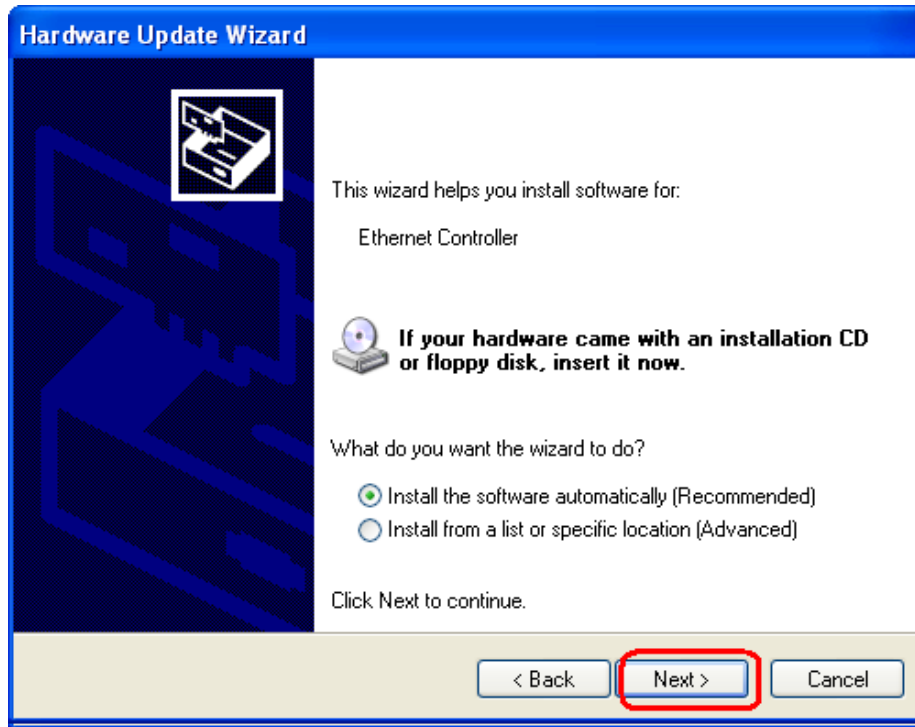

Figure 7-28: Ethernet Driver Installation Start
Step 8: The screen in **Figure 7-28** appears.
Step 9: Select the recommended option in **Figure 7-28**.